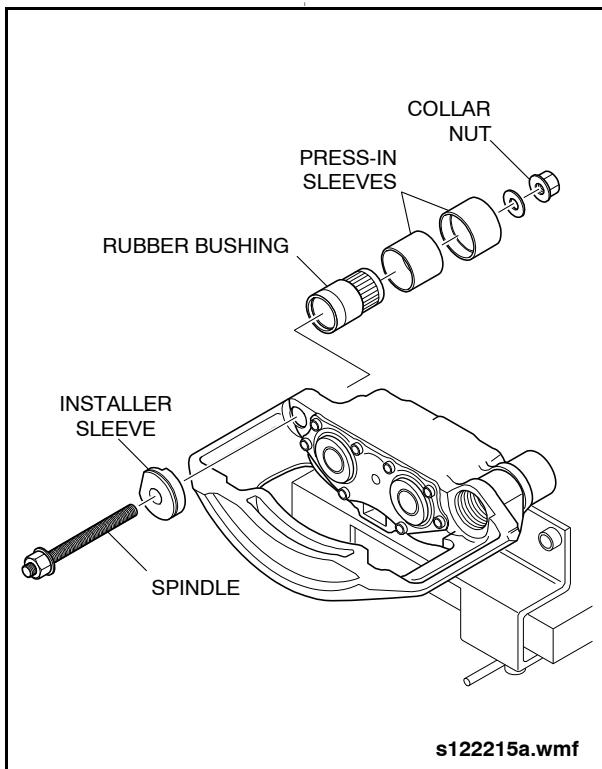

Fig. 1-60: Rubber Bushing Installation
- b. Position installation tool with rubber bushing on the brake caliper and mount with spindle and collar nut tools (Items 70, 71, 72, 75, & 77 from special tools list). **See "Fig. 1-60: Rubber Bushing Installation" on page 68.**